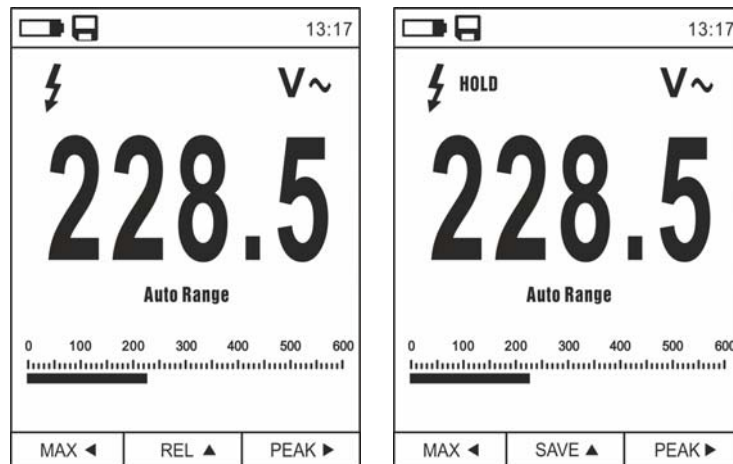

Fig. 7: Saving the value frozen on the display
1. Press key **HOLD/ESC** to freeze the result. Message “HOLD” appears on the display and key **REL ▲** becomes **SAVE ▲** (see Fig. 7).